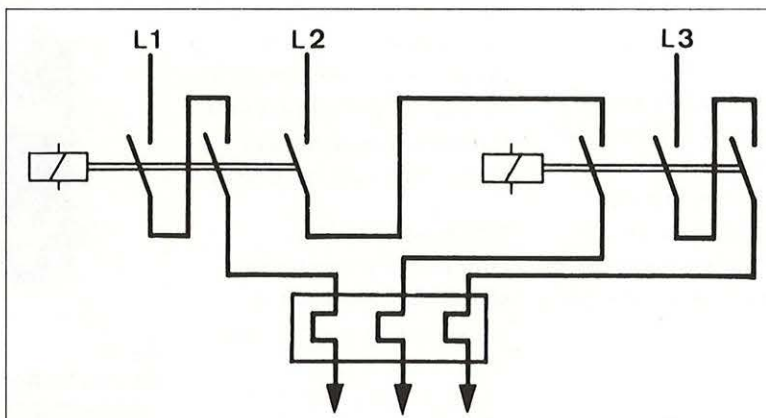

Fig. 2. Combined arrangement of two identical contactors. Thermal overload relay, if used, to be mounted separately.
**With a 660V three phase current** and standard double point configuration per pole, the permissible rated operational current of some contactor types is reduced in comparison to lower voltages. By connecting two main current paths per pole in series according to Fig. 2, the permissible rated operational current for 415V can be attained for 660V as well.